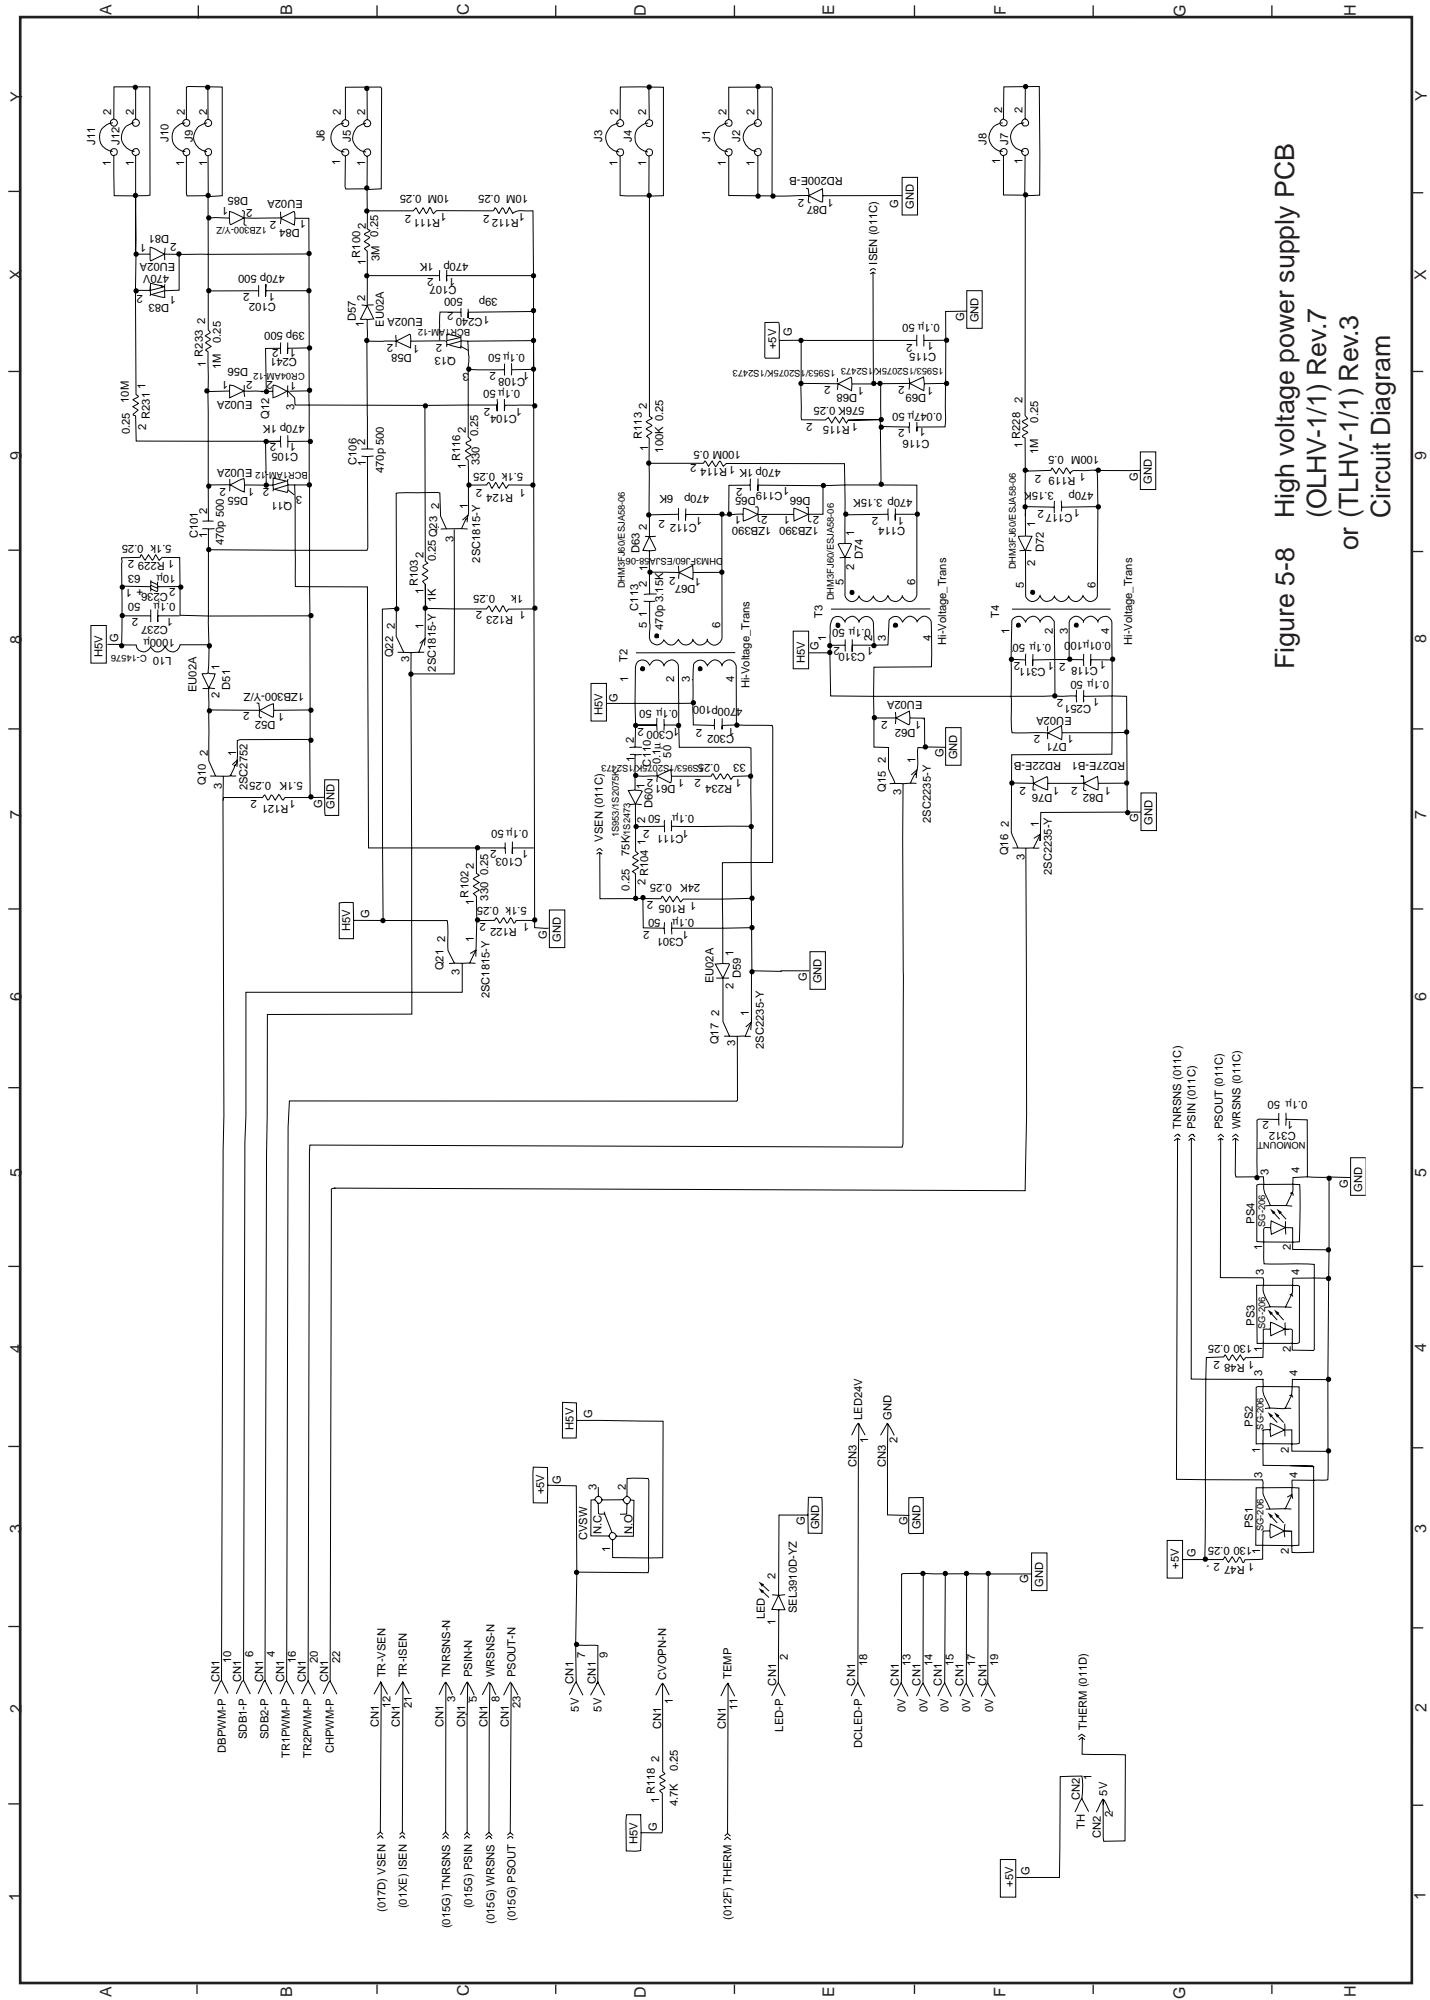

Figure 5-8 High voltage power supply PCB (OLHV-1/1) Rev.7 or (TLHV-1/1) Rev.3 Circuit Diagram
- Figure5-8 High voltage Power Supply PCB (OLHV-) Circuit Diagram (Rev.7)